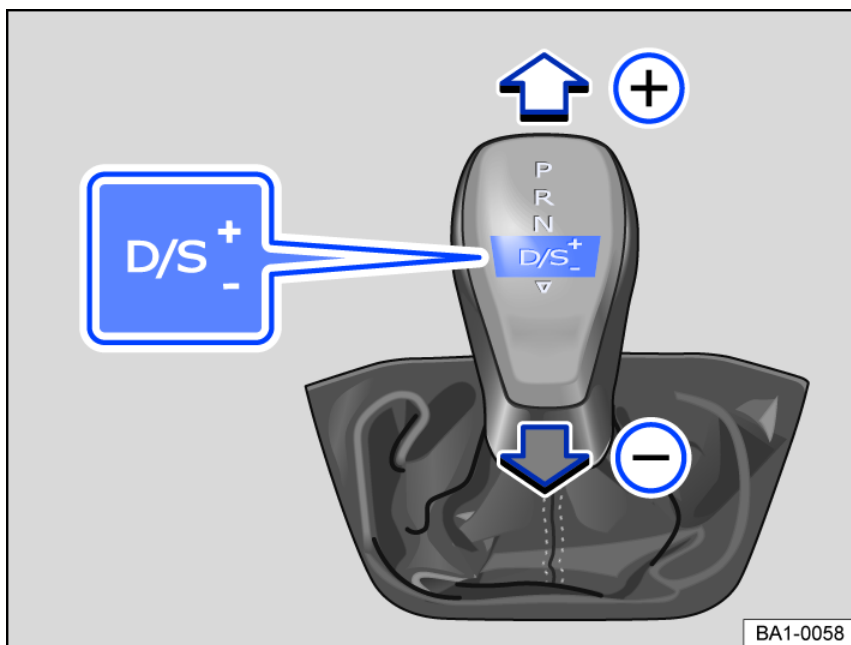

Fig. 116 Selector lever in Tiptronic position.
- Tap the selector lever forward  or to the rear  to upshift or downshift fig. 116.